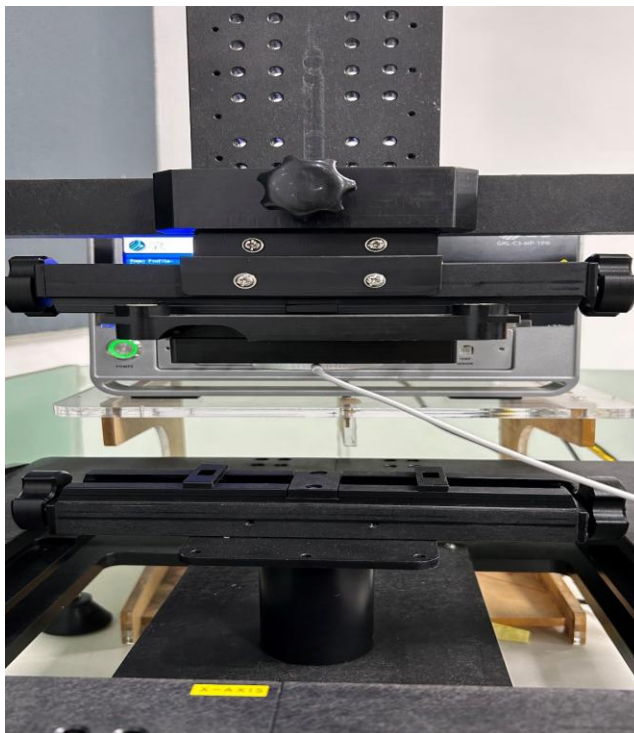

FIGURE 6.6: FIND OPTIMUM COIL POSITION - #1
6. Adjust the PTx DUT in the GRL Platform Solutions PRx Coil to align with the magnetic position on the positioning tool as shown in Figure 6.6 below.